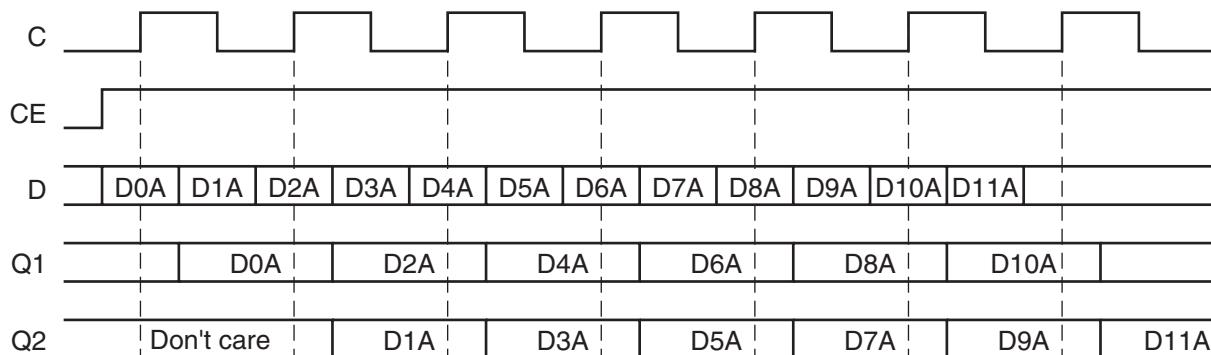

Figure 7-5: Input DDR Timing in SAME_EDGE Mode
By adding the third register, data is presented into the FPGA fabric on the same clock edge. However, the additional register causes the data pair to be separated by one clock cycle. Figure 7-5 shows the timing diagram of the input DDR using the SAME_EDGE mode. In the timing diagram, the output pairs are no longer (0) and (1). Instead, the first pair presented is pair (0) and (don't care), followed by pair (1) and (2) on the next clock cycle.